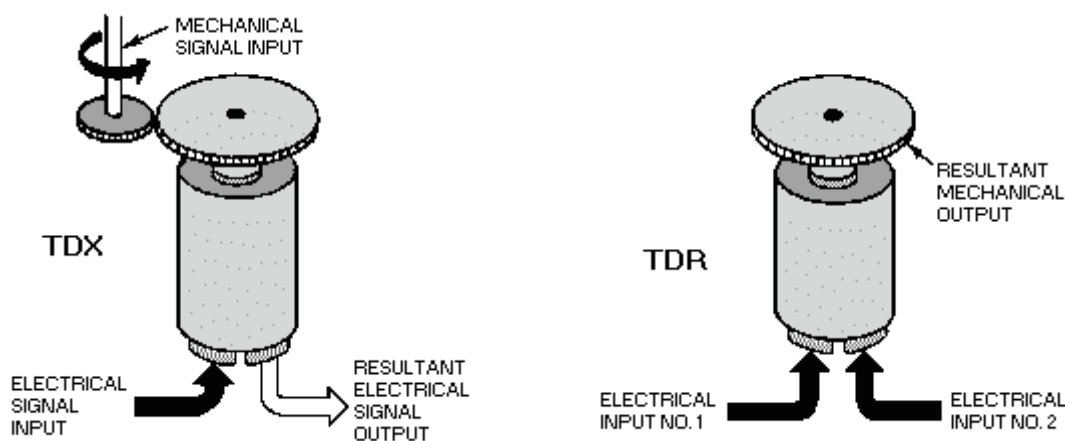

Figure 1-18.—Torque differentials.
There are two types of differential units - differential transmitters and differential receivers. The differential transmitter (TDX) accepts one electrical input and one mechanical input and produces one electrical output. The differential receiver (TDR) accepts two electrical inputs and produces one mechanical output. A comparison of the TDX and TDR is shown in figure 1-18. The torque differential transmitter and the torque differential receiver can be used to form a DIFFERENTIAL SYNCHRO SYSTEM. The system can consist either of a torque transmitter (TX), a torque differential transmitter (TDX), and a torque receiver (TR), (TX-TDX-TR); or two torque transmitters (TXs) and one torque differential receiver (TDR), (TX-TDR-TX). Before beginning a discussion of the systems using differentials, we need to provide a brief explanation on the newly introduced synchros, the TDX and the TDR.